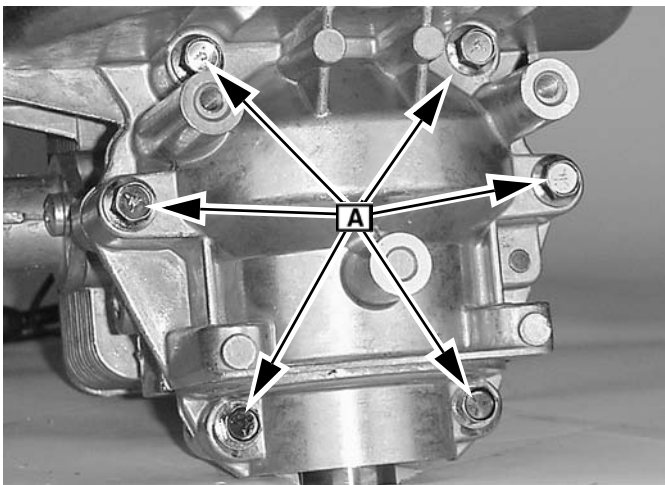

Fig. 25
1. Remove the six crankcase cap screws **A** (Figure 25).